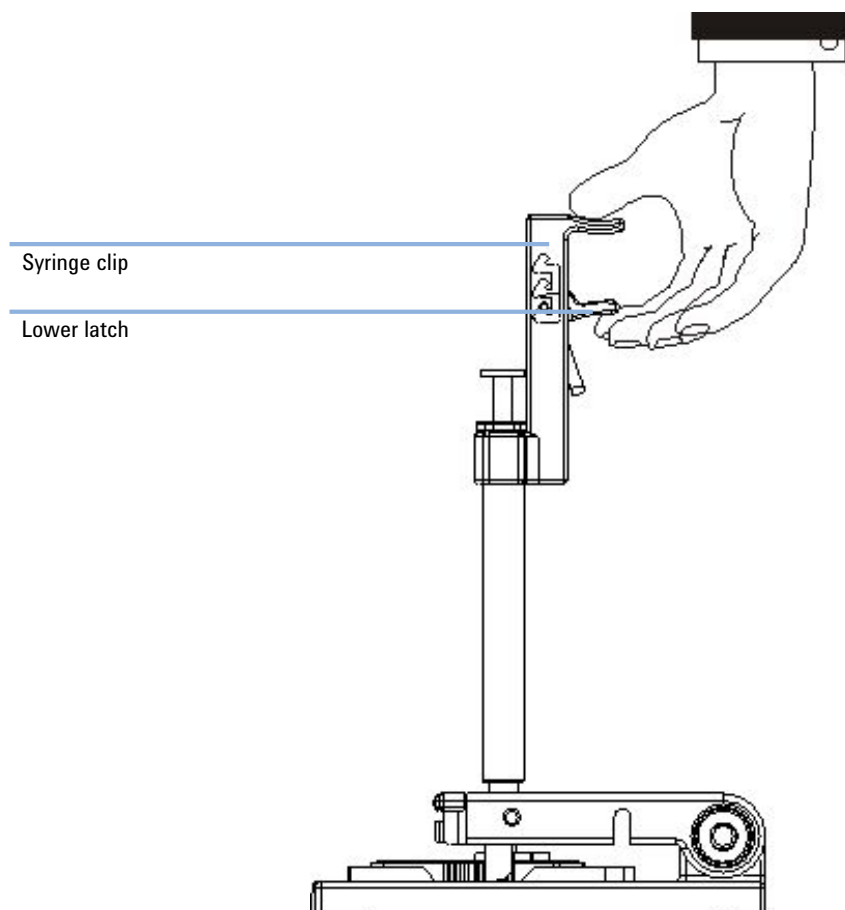

Figure 9 Releasing the plunger from the syringe
- 6 Wait for 5 seconds and lower latch of the clip to release the plunger as shown in Figure 9 on page 135.